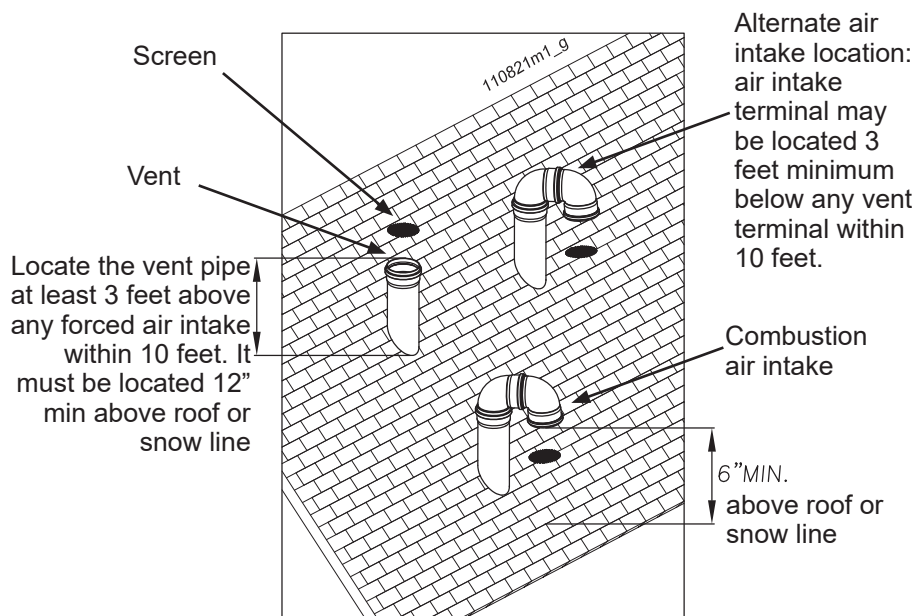

Figure 11-21 Two pipes vertical terminations of air and vent
- 3.- Space the air and vent holes to provide the minimum spacing shown in Figure 11-21 and listed in Section 11.12.1;
- 1.- Prepare the vent termination and the air termination elbow (Figure 11-21) by inserting bird screens;
- 2.- The air piping must terminate in a down-turned 180° return bend as shown in Figure 11-21. Locate the vent pipe at least 3 feet above any forced air intake within 10 feet. This placement avoids recirculation of flue products into the combustion air stream;
- 3.- Maintain the required dimensions of the finished termination piping as shown in Figure 11-21;
- 4.- Do not extend exposed vent pipe outside of building more than shown in Figure 11-21. Condensate could freeze and block vent pipe.